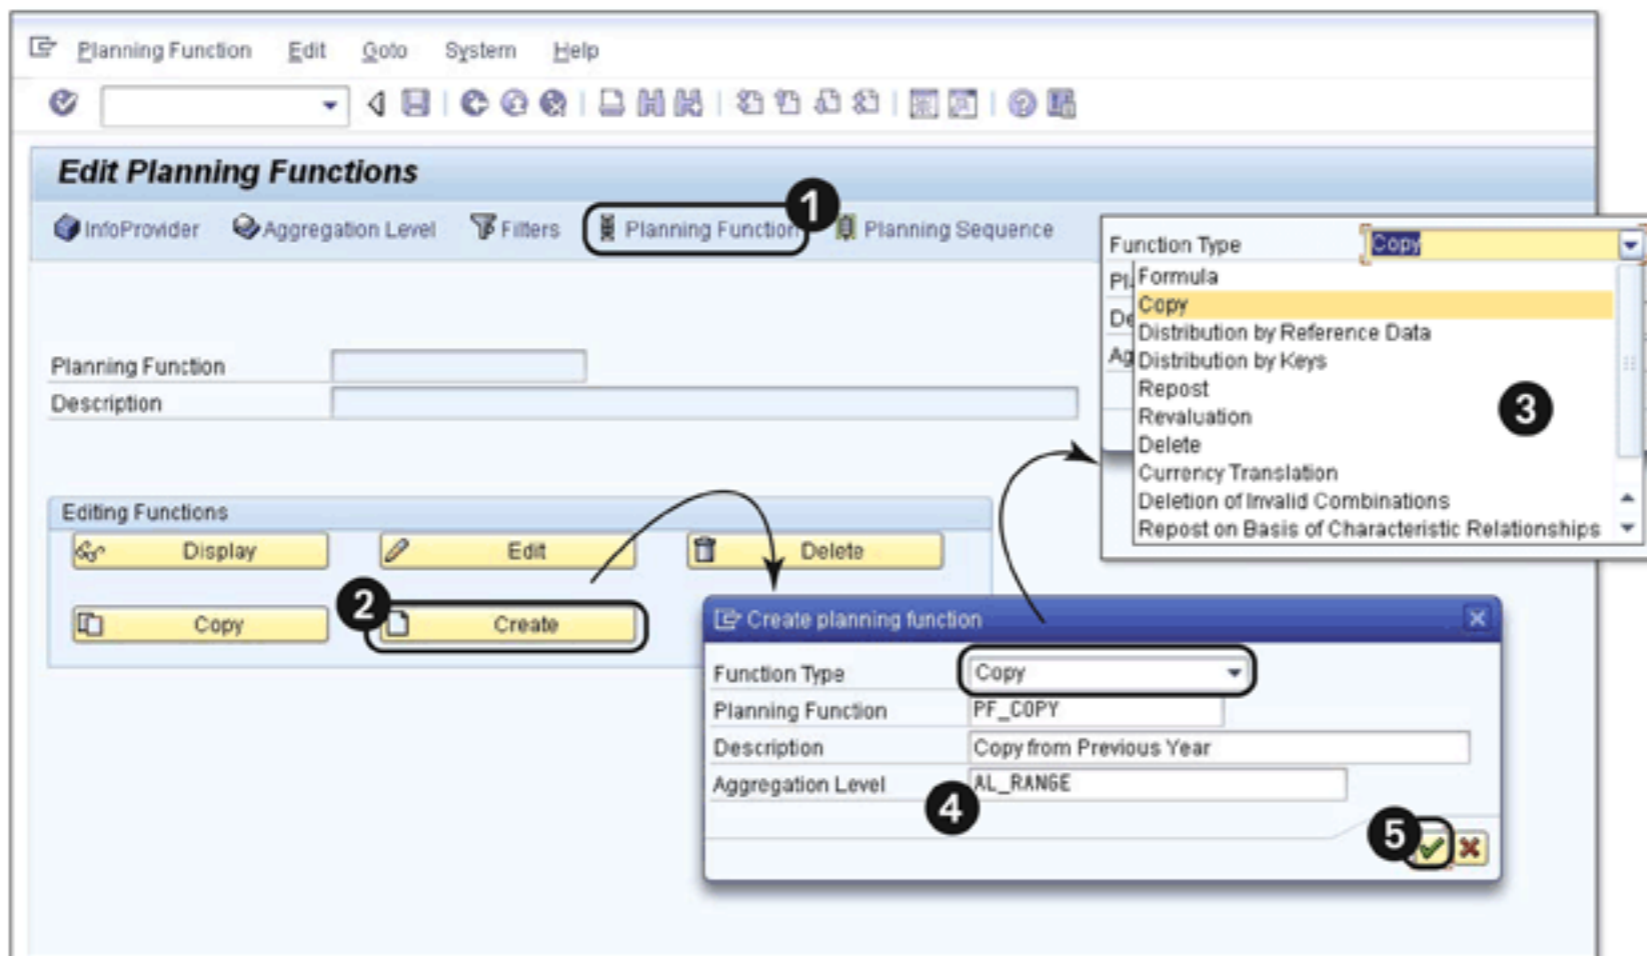

Figure 12.33 Create Planning Function
Before we explain each of the available standard functions, let's learn how to create a planning function based on an available standard function type. To create a planning function, go to the PLANNING FUNCTIONS section in Transaction RSPLAN (❶ of Figure 12.33), and then click on CREATE (❷). A pop-up screen appears.
In the pop-up screen, select one of the available planning function types from the dropdown list (❸ of Figure 12.33). (We'll discuss each of these standard planning function types in subsequent sections.)
Create a copy planning function by following the procedure explained in the beginning of Section 12.2.6. Use the technical name PF_COPY and description COPY FROM PREVIOUS YEAR on the AGGREGATION LEVEL for product range planning (AL_RANGE). See Figure 12.33 for details. Once you click on OK, you can define the characteristic usage for this planning function on the next screen displayed (see Figure 12.37).